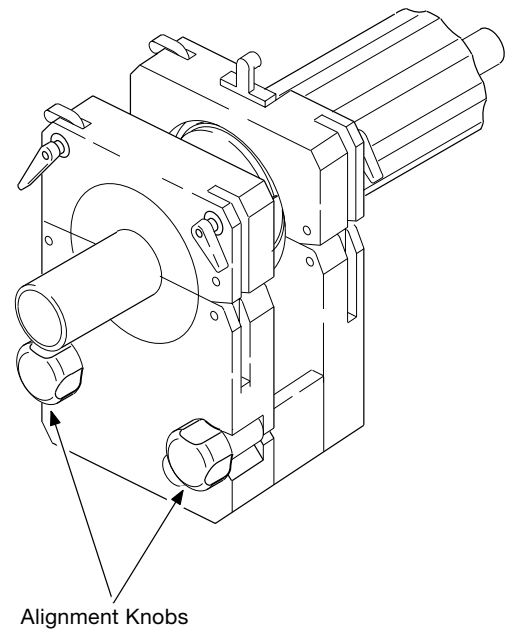

Figure 19 Loosen the Alignment Knobs
1. Loosen the alignment knobs. See Figure 19.